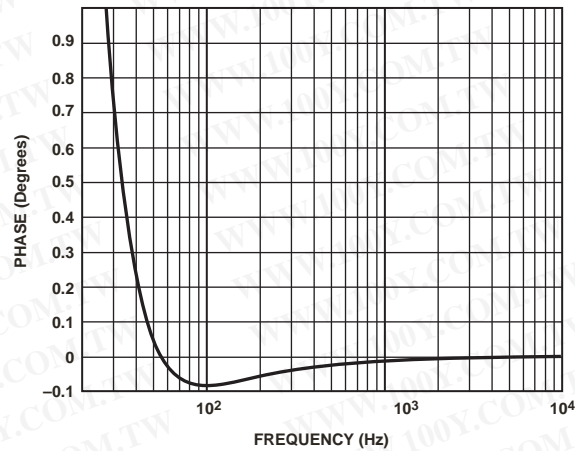
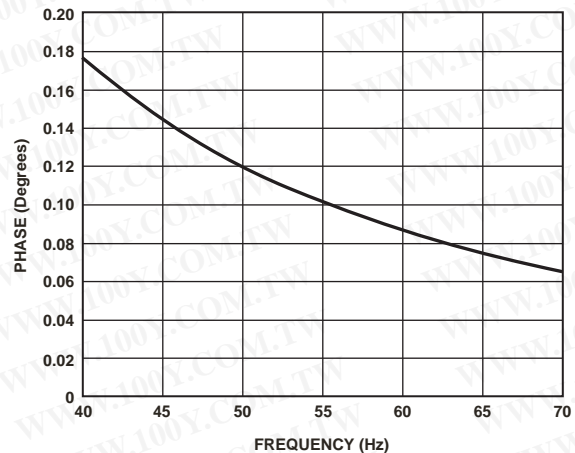
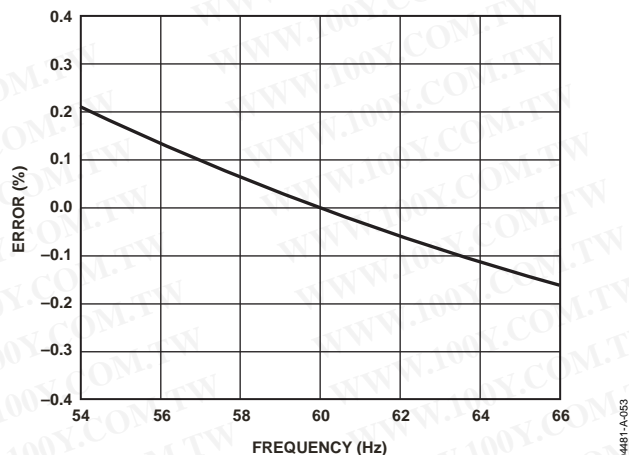

Figure 50. Combined Phase Response of HPF and Phase Compensation (10 Hz to 1 kHz)
Figure 51. Combined Phase Response of HPF and Phase Compensation (40 Hz to 70 Hz)
Figure 52. Combined Gain Response of HPF and Phase Compensation
When the HPF is disabled, the phase error between Channel 1 and Channel 2 is 0 from dc to 3.5 kHz. When HPF is enabled, Channel 1 has the phase response illustrated in Figure 50 and Figure 51. Figure 52 shows the magnitude response of the filter. As seen from the plots, the phase response is almost 0 from 45 Hz to 1 kHz, which is all that is required in typical energy measurement applications. However, despite being internally phase-compensated, the ADE7763 must work with transducers, which could have inherent phase errors. For example, a phase error of 0.1° to 0.3° is not uncommon for a current transformer (CT). Phase errors can vary from part to part and must be corrected in order to perform accurate power calculations. The errors associated with phase mismatch are particularly noticeable at low power factors. The ADE7763 provides a means of digitally calibrating these small phase errors by allowing a short time delay or time advance to be introduced into the signal processing chain to compensate for these errors. Because the compensation is in time, this technique should only be used for small phase errors in the range of 0.1° to 0.5° . Correcting large phase errors using a time shift technique can introduce significant phase errors at higher harmonics.